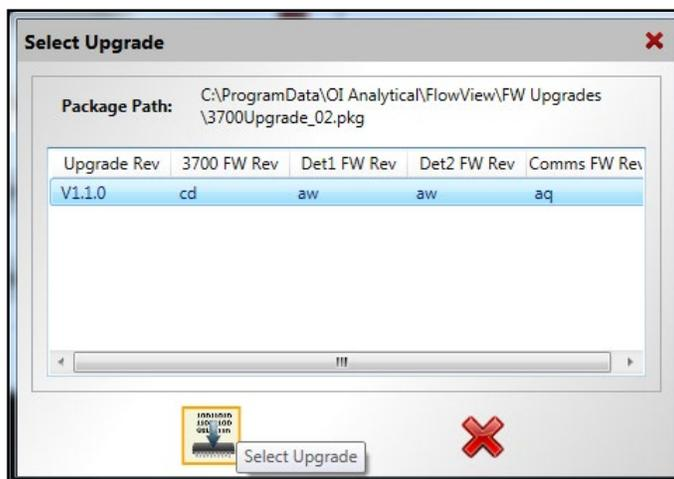

Figure 7.8. Select Upgrade Dialog
4. Browse for the file, select it and then click **Open**. The “Select Upgrade” dialog will open (see Figure 7.8).